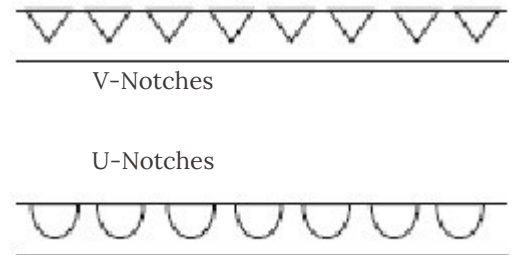

Fig. 2
- 5) Using the sharp utility knife, notch the tri-rod at predetermined intervals. The tri-rod can be notched into a "V" or "U" shape (see Fig. 2). The size of the notch should be the same size as the arrow shaft. Too much room can cause movement while too little room can cause abrasion.